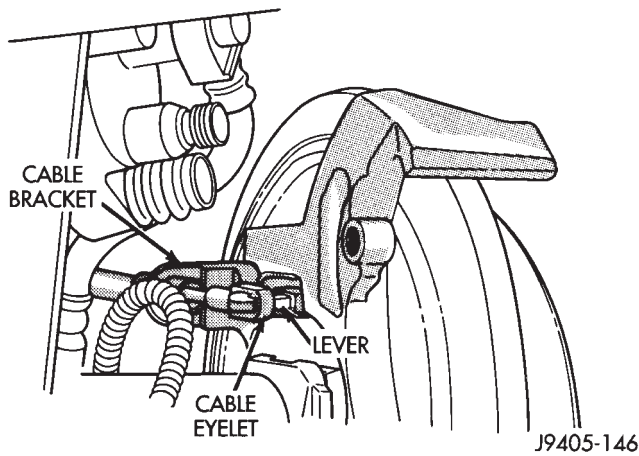

Fig. 11 Parking Brake Cable Attachment (With Disc Brakes)
- (1) If a replacement combination valve is being installed and it does not have primary and secondary brakeline adaptor fittings (Fig. 11), transfer original adapters to new valve. Tighten adapters to 25 N·m (220 in. lbs.) torque.
- (2) Connect brakelines lines to combination valve but do not tighten fittings at this time. Start all line fittings by hand to avoid cross threading.